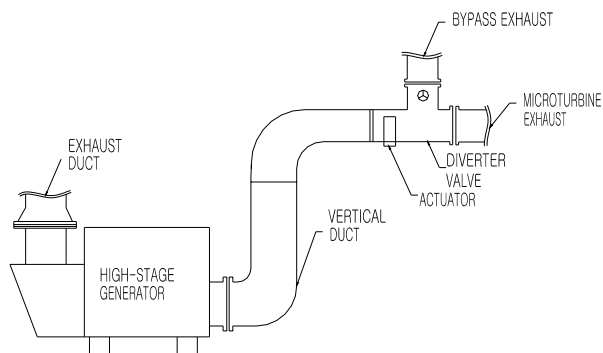

Fig. 1-8 Example of Diverter Valve Installation
2. Install the diverter valve at the end of micro-turbine exhaust duct as Fig. 1-8. Level the diverter valve by using level gage.